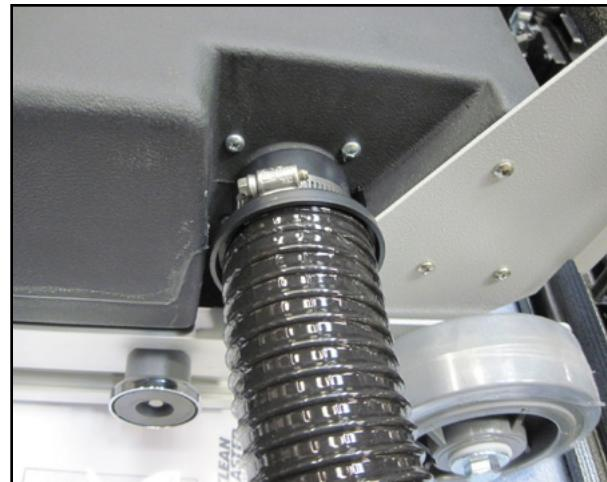

Figure 15. Attach Other End of Hose to Housing Assembly
11. Attach the vacuum hose between the housing assembly and the cleaning nozzle. The hose connector with the shorter end should be connected to the cleaning nozzle assembly. The hose connector with the longer end is connected to the housing assembly (see Figure 15) and should be secured by tightening the clamp.